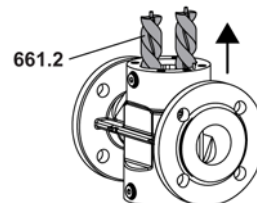

Fig. 23
6. Remove the idle screws 661.2 from the pump housing, see Fig. 23.